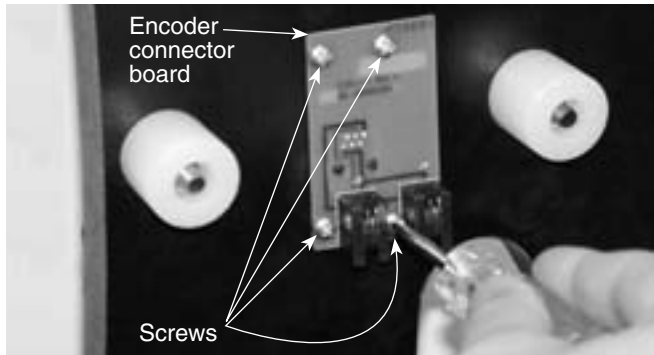

Figure 6. Attaching the encoder connector board. (XT10 Shown)
12. Attach the encoder connector board to the side panel. Place the board against the side panel so that the modular jack fits into the square-shaped hole and thread four encoder board mounting screws through the connector board and into the predrilled holes in the side panel until tight (Figure 6).